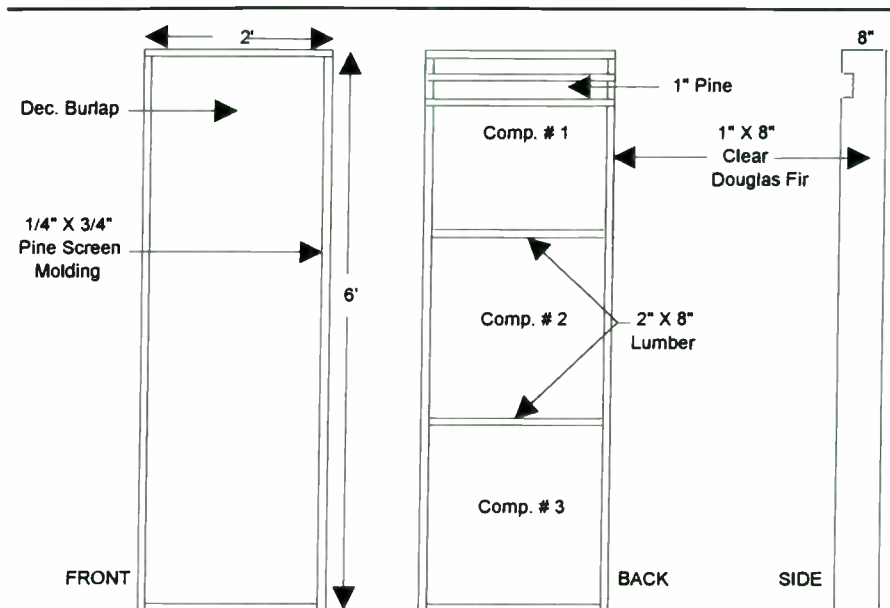

FIGURE 1: Portable wall modules, which control sound absorption and diffusion.
**WALL CONSTRUCTION.** I constructed the portable wall modules using 1" x 8" clear Douglas fir, which is fairly inexpensive, stains rather well, and looks attractive. Figure 1 shows front, back, and side views of a module.